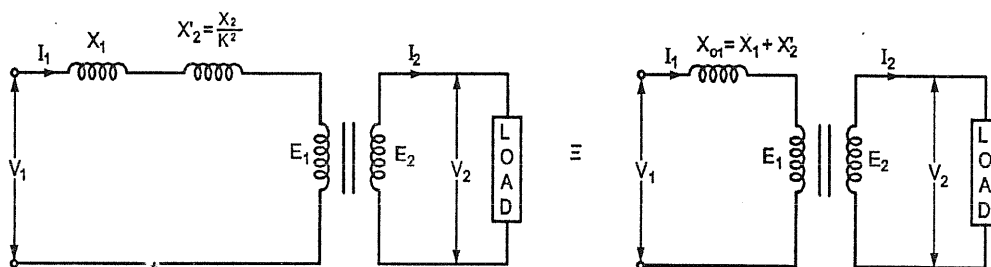

FIG. 3.26 : TRANSFERRING SECONDARY REACTANCE TO PRIMARY
- Let the Secondary reactance X_2 be transferred to the primary and the transferred reactance is X_2' . This is called equivalent reactance of secondary as referred to primary as shown in Fig. 3.26.